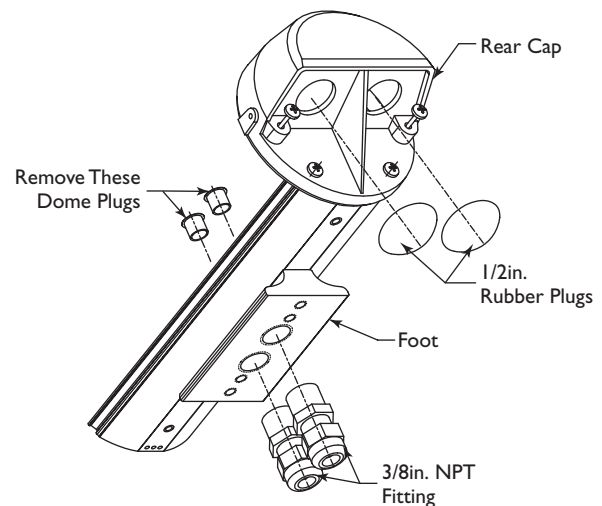

FIGURE 5: Feed-through Wiring
1. Prior to mounting the camera, remove the two dome plugs located inside the housing. See FIGURE 5.